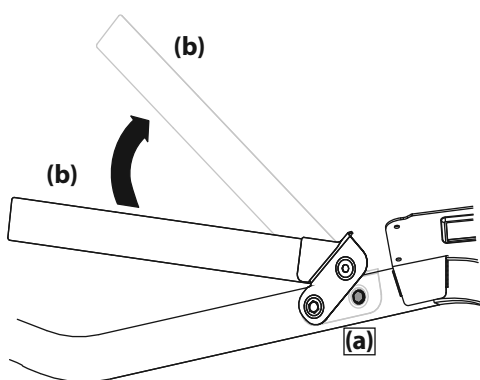

Figure 3
1. Remove the two hex washer screws (a) partially installed on the frame. See Figure 3.
2. Rotate the upper hoop (b) into position. See Figure 3.